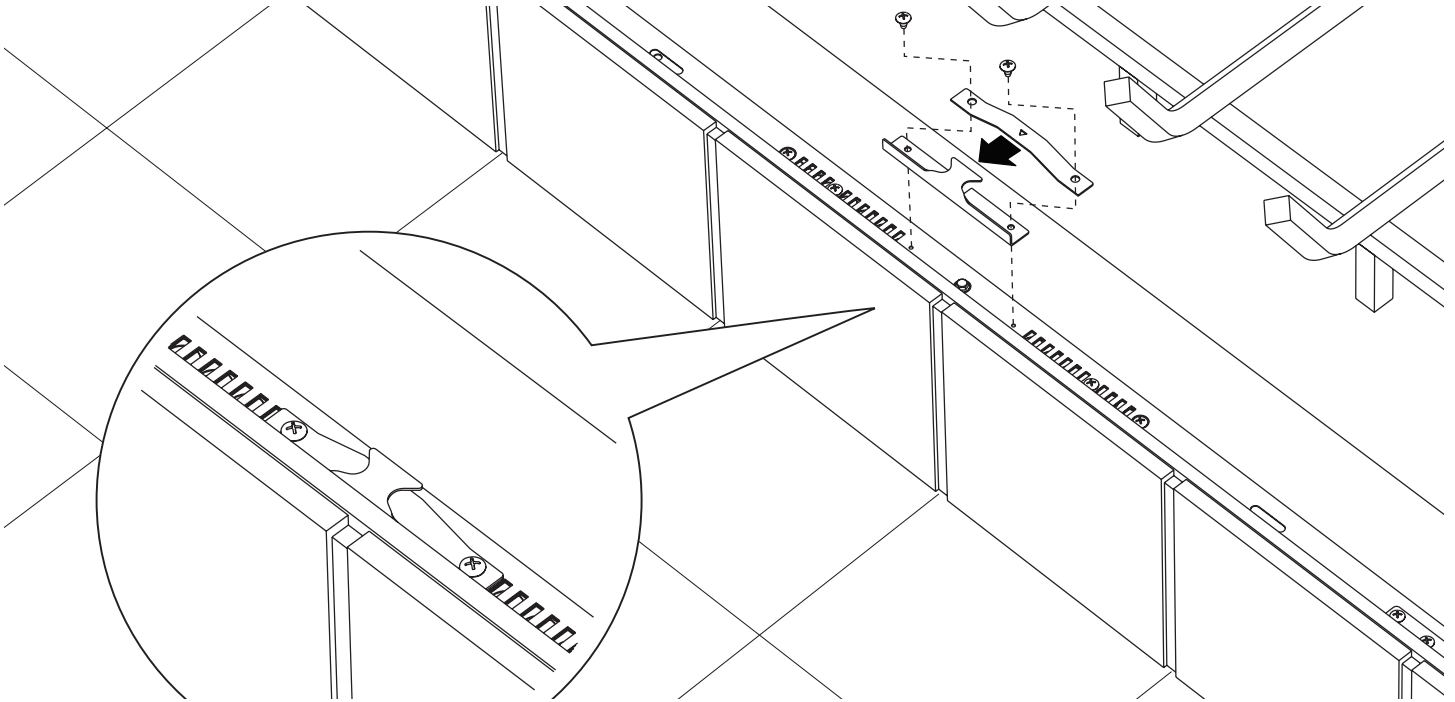

Figure 8
9. Set the Door Leveler inside of the Door Latch (orient the parts as shown in **Figure 8** with the arrow on the Door Leveler pointing towards you), and screw these
parts to the center of the Bottom Door Track as shown in **Figure 8**. Use Truss-Head Screws from the Hardware Pack, and only use a hand driver to prevent stripping the holes.